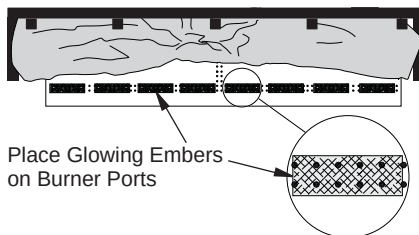

Figure 16 - Placement of Embers
3. Add embers to front flat burner as shown in Figure 16. (12 pieces are supplied with 24" models and 8 pieces with 18" models.) Additional glowing effect can be achieved by fraying edges of ember material.
⚠ WARNING: Do not operate unit without ember material correctly in place as shown in Figure 16, page 14. **DO NOT** place ember material anywhere else on the unit. Use only ember material supplied with unit. Excessive or incorrectly placed ember material may produce carbon monoxide or soot.